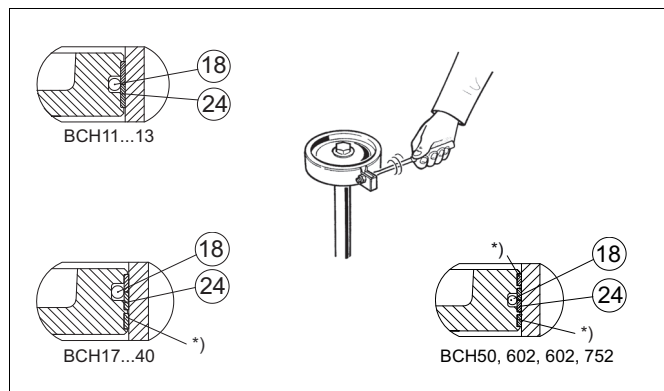

Fig. 18 Tightening the piston seals with a tie ring
- Locate the seals (24) around the piston so that the ends of the strips come on opposite sides. Tighten the strips with the tie ring as shown in Figure 18. The strips marked with an asterisk (*) may be cut 1,5-3 mm shorter to facilitate assembly.